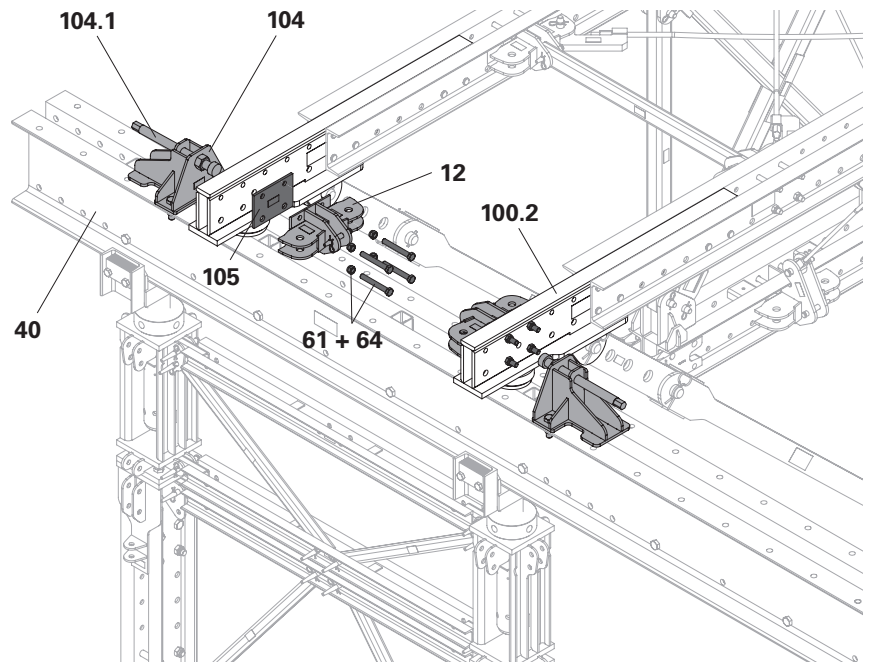

Fig. H1.09
1. Screw Bracing Shoe VRB (**12**) and Filler Plate VRB (**105**) onto the assembly position of the telescopic box (**100.2**) with bolt ISO 4014 M20 x 150-8.8 (**61**) and nut ISO 7040 M20-8 (**64**). (Fig. H1.09)
(Fig. H1.09)